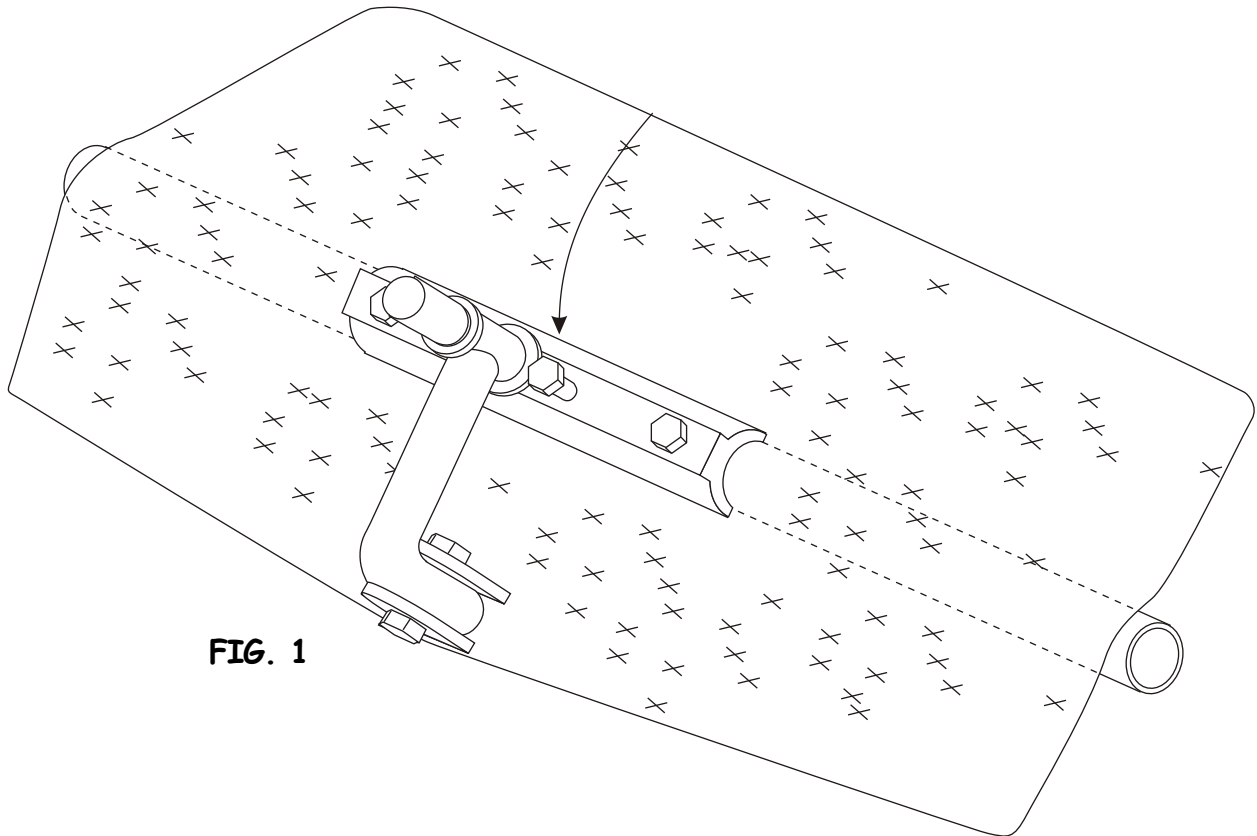

FIG. 1
- A. Remove the two inner bolts from the tongue bracket seen in Figure 1 with a 10mm wrench.